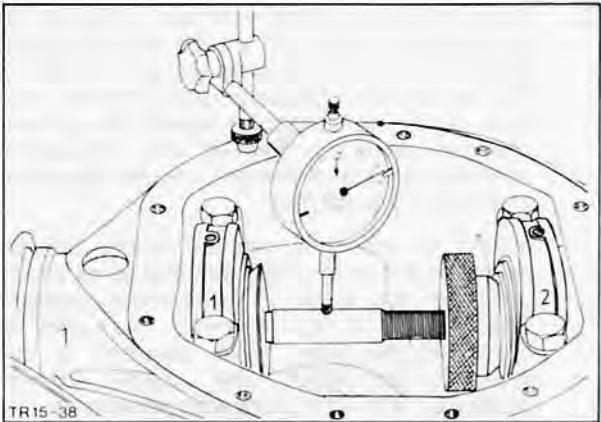

Fig. 36. Adjust gauge bar 15-019
19. Secure dial indicator with holding fixture on rear axle casing and position plunger on centre of gauge bar. Turn bar slowly and observe total deflection of dial pointer, Fig. 36. Then turn gauge bar until dial indicator reading is half the deflection measured. Gauge bar must not be turned any more.